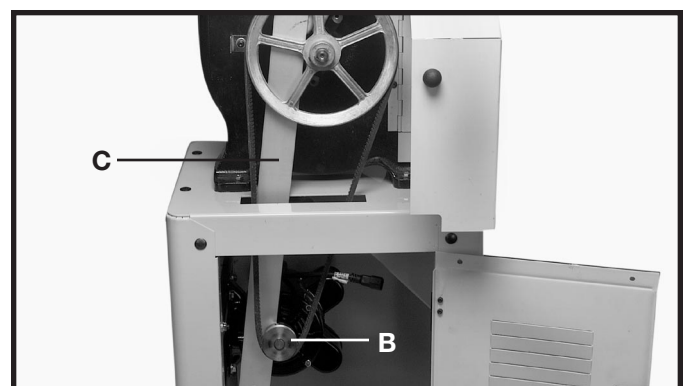

Fig. 26
2. Lift the motor and place the other end of the belt around the motor pulley (B) Fig. 26.
3. Check the alignment of the motor and saw pulley with a straight edge (C) Fig. 26. Adjust the position of the motor pulley, until the motor pulley and saw pulley are aligned.